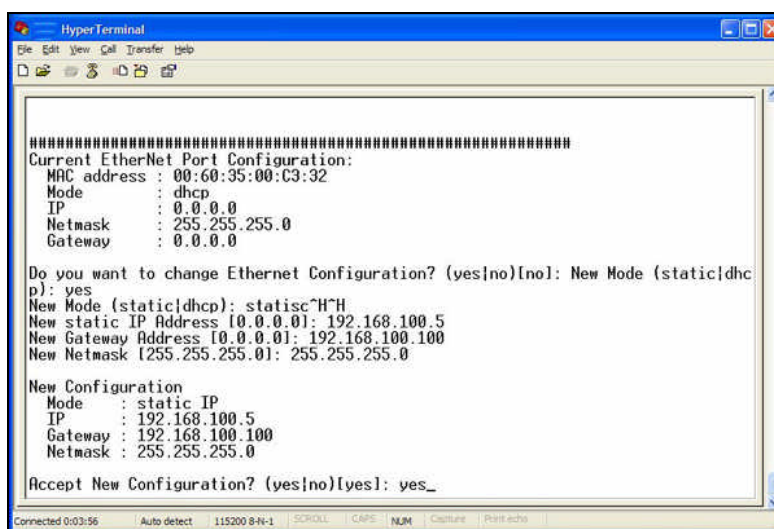

Figure 8. NetRS Ethernet Interface Configuration
- f. When the message from the GPS receiver asks, **do you want to change Ethernet Configuration (Yes/No?)**, type **Yes** and press the enter key. This will give you an opportunity to enter the new network parameters. Please talk to your network administrator or Internet Service Provider to get an IP address, subnet mask and the gateway address. Once these parameters are entered, the receiver will ask you to confirm the parameters as in Figure 8.